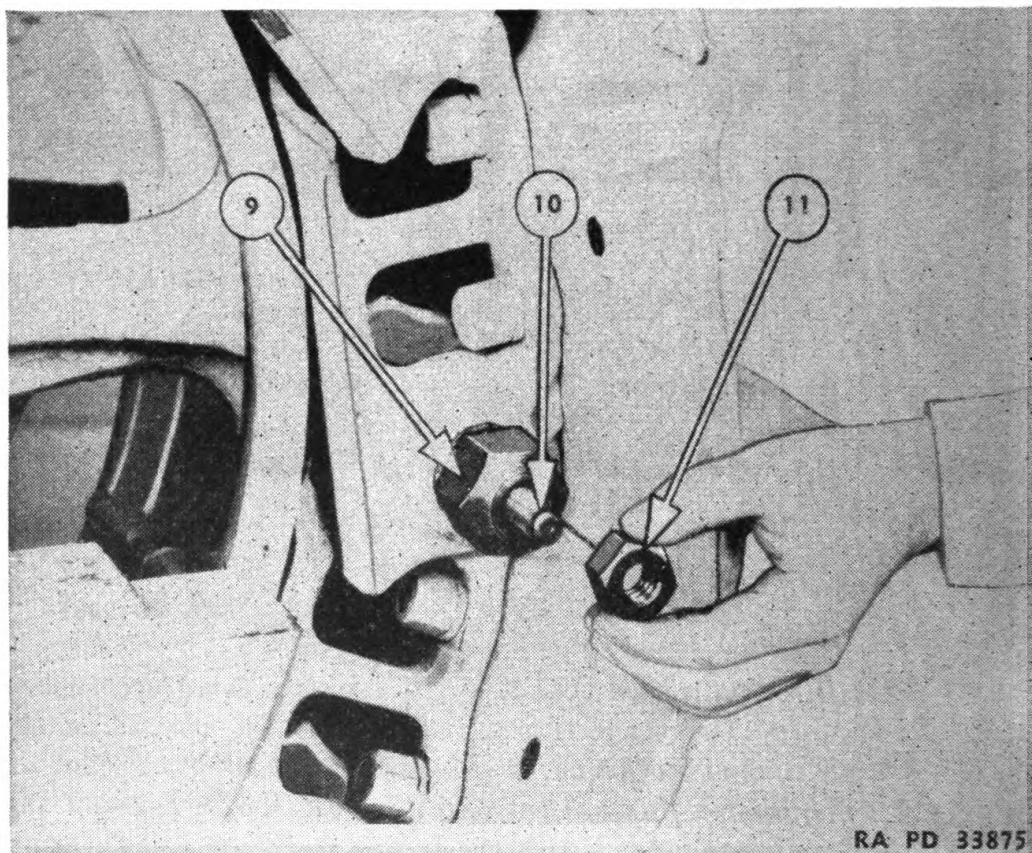

FIGURE 159.—Sleeve, screw and nut assembly.
b. Remove cork from plug and pull plug on outside of the track using 1B9990 sleeve (9) (fig. 159), 3B1022 screw (10), and 3B1023 nut (11). Drive out the master pin using a punch inserted in the plug hole of the master bushing. Do not damage the tapered bore in the master pin. Remove collars (12) (fig. 160).